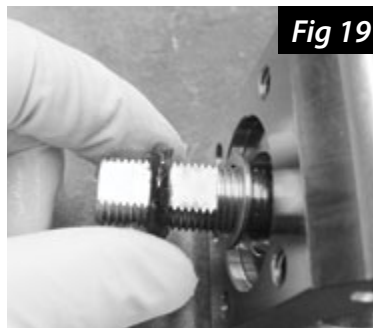

Fig 19
3. Position one of the two new brass bushings over the stem. Apply a liberal amount of vacuum grease around the inside and outside of the new stem seal o-ring. Slide the o-ring onto the stem (Fig 19). Next, slide the second new brass bushing on the stem. **Note: Applying sufficient vacuum grease will reduce stem o-ring wear and extend the life of the stem seal.**